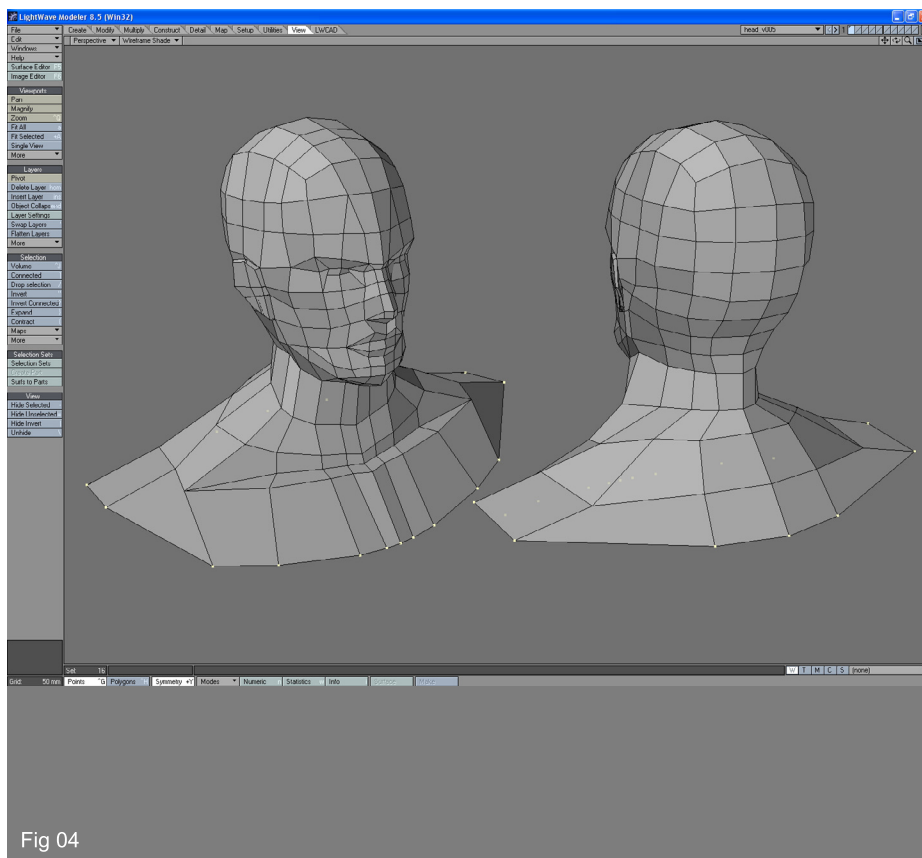

Fig 04
4. Once again select the lowest points of the model, extend them and readjust them. It is always a good idea to adjust points into suitable position before making another extrusion. It makes the modelling process much easier and faster (Fig04).